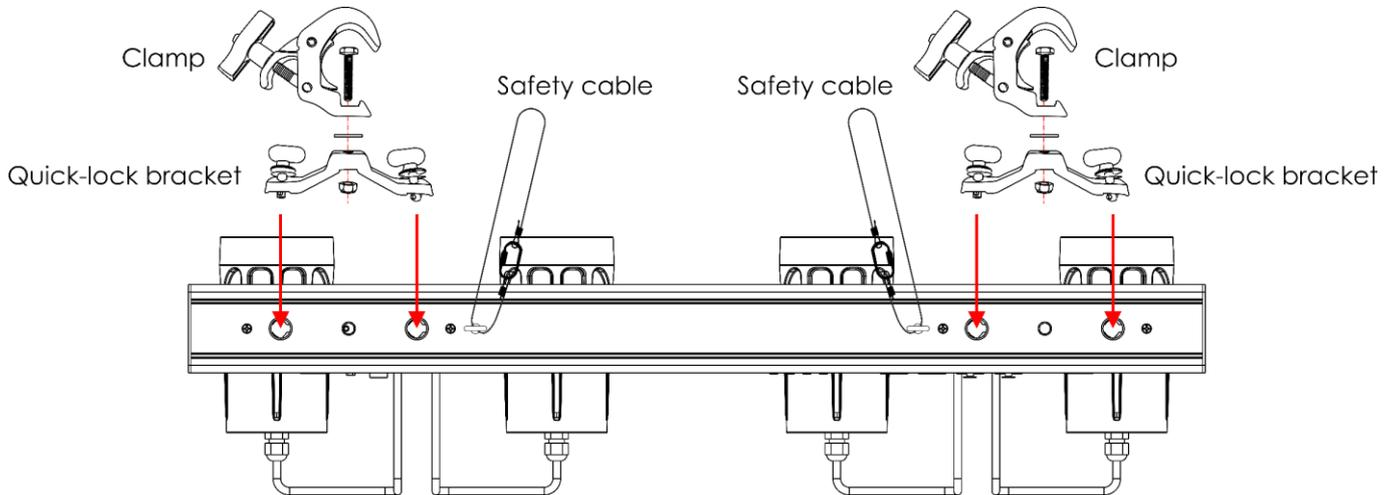
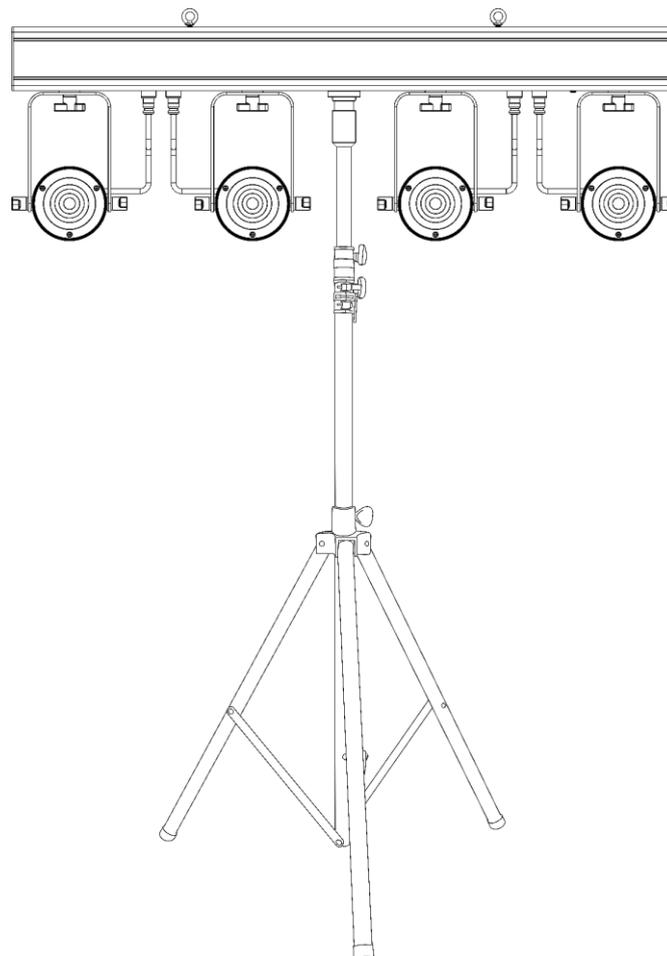

Fig. 06
Fig. 07
- 01) Use the included quick-lock brackets to attach the device to the supporting structure, as shown in Fig. 06. Make sure that the device cannot move freely. Optionally, you can install the device on a lighting stand, as shown in Fig. 07.
- 02) Secure the device with a secondary suspension, for example a safety cable. Make sure that the secondary suspension can hold 10 times the weight of the device. If possible, the secondary suspension should be attached to a supporting structure independent of the primary suspension. Put the safety cable through both **safety eyes (01)**, as shown in Fig. 06.